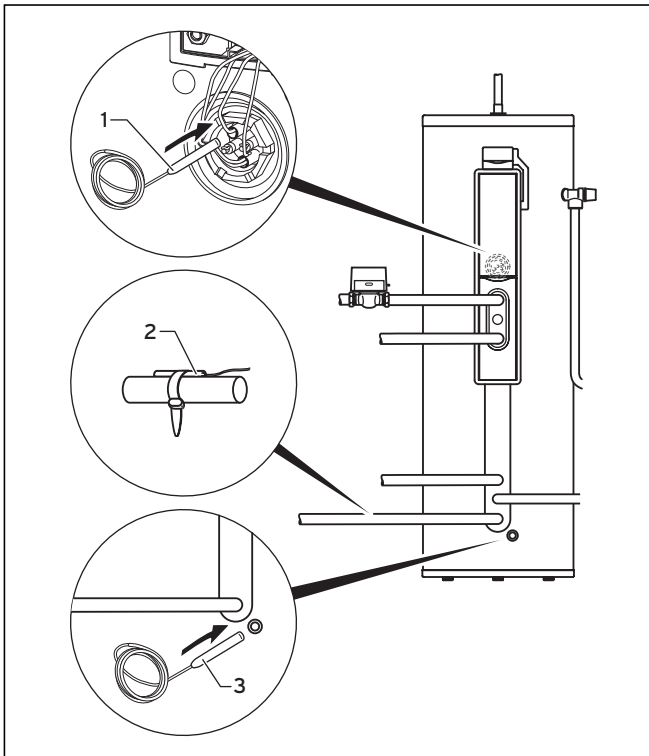

Fig. 5.35 Installation of the VR 10 temperature sensor
- Installation of two VR 10 temperature sensors in the solar cylinder (see Fig. 5.35)
- Attachment of the solar gain sensor to the solar circuit return (see Fig. 5.35)